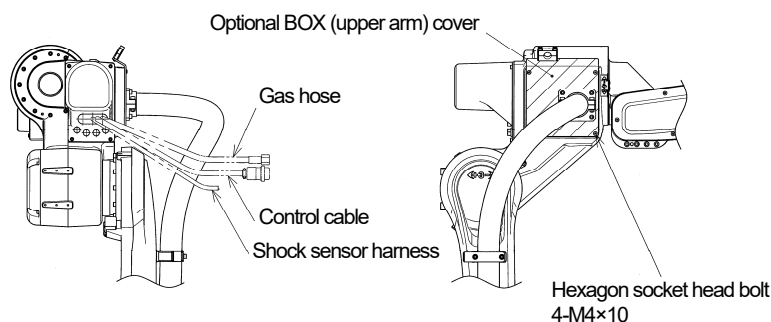

Figure 1.7 Outline of optional BOX (upper arm)
1. Referring to Figure 1.7, unscrew four hexagon socket head bolts (M4×10) and open the cover of optional BOX on the upper arm.